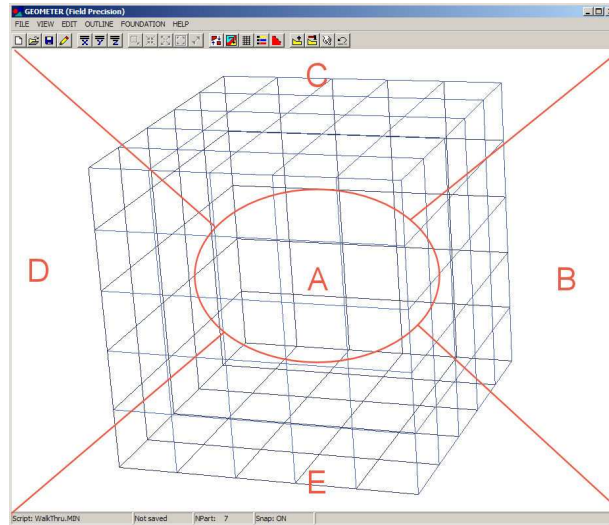

Figure 28: Active areas for mouse control of the 3D view.
The method to control the three-dimensional display with the mouse is identical to that used in **MetaMesh**. Figure 28 shows the active areas of the screen. The central zone (A) is used for zooming in (left button) and out (right button). Hold down the left mouse button in zones B, C, D and E to walk around the object. Hold down the right mouse button in zones B, C, D and E to move the viewpoint to the right, upward, to the left and downward. Note that changes are reflected in the orientation box in the upper-right portion of the screen. The plot is updated when you release the mouse button. You can control additional aspects of the three-dimensional view with the commands of the *Adjust view* popup menu.